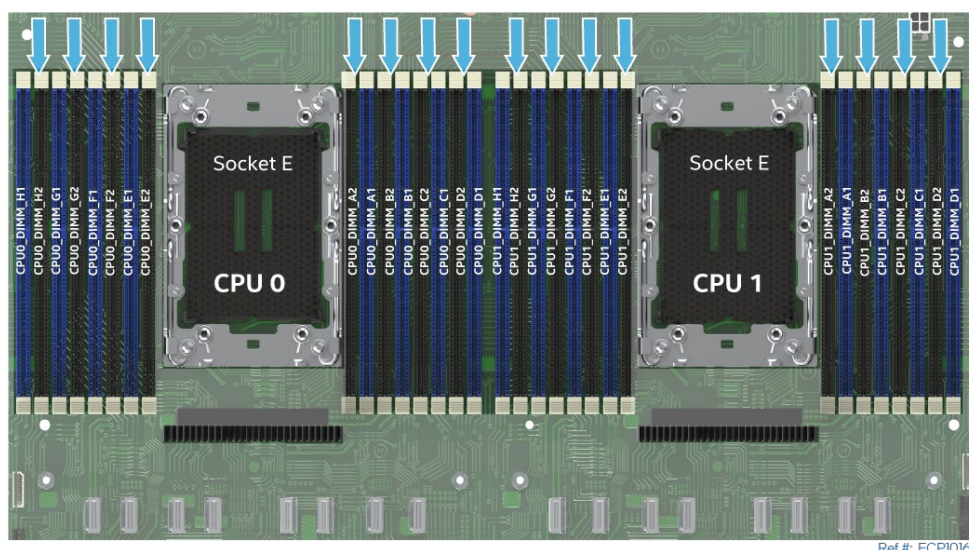

Figure 34. System Memory Modules / DIMM Blanks Configuration
- All black memory slots must be populated with a memory module or factory installed DIMM blank. (See Figure 34). All system configurations ship from Intel with DIMM blanks preinstalled. Preinstalled DIMM blanks should only be removed when installing a memory module in its place.